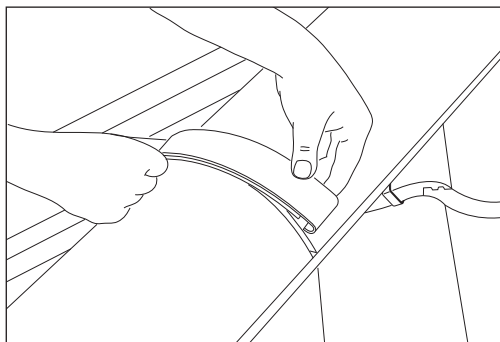

Fig 12 Fit ridge unions
- 21 Break off locating lugs on underside of hip/ridge union with pincers or other suitable tool before fitting. Make two small cuts (max. 5mm deep) at either side of block end hip tile to allow claws of hip ridge union to clip onto bead of batten section (Fig 12).